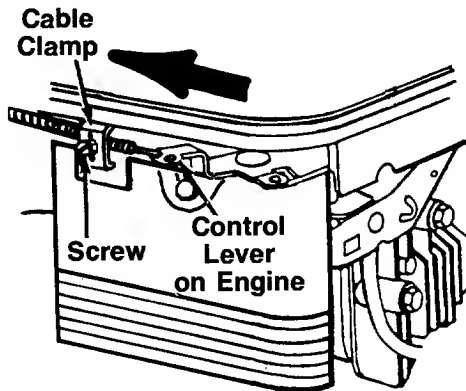

FIGURE 21.—Models 464R, 466R, 468R, 474R, 476R and 478R
1. Remove the screw shown in figure 21. Remove the cable clamp from the cable.